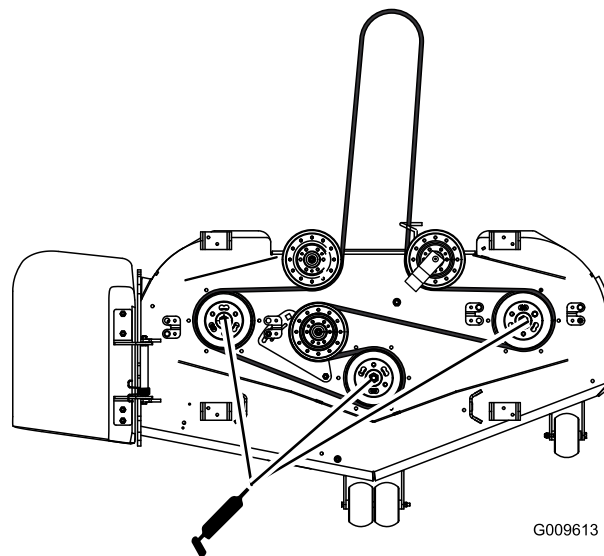

Figure 36
3. Grease the fittings on the 3 spindle bearings (Figure 36).